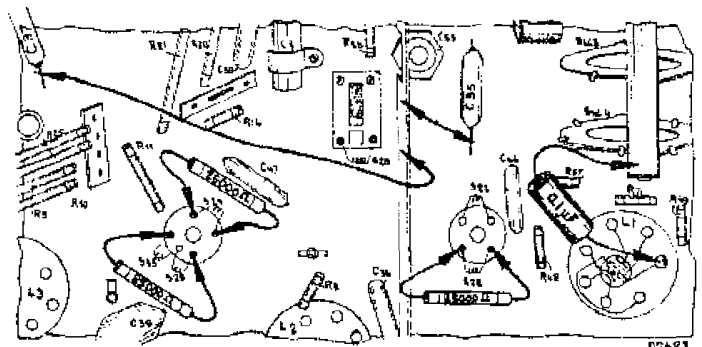

Fig. 3.
6. Render A.V.C. inoperative by short-circuiting C35 and C37 (see Fig. 3).
9. Shunt S24 with 25,000 ohms resistance (see Fig. 3).
13. Shunt S25-S35 with 25,000 ohms resistance (see Fig. 3).
16. Shunt S24 with 25,000 ohms resistance (see Fig. 3).
19. Shunt S22 with 25,000 ohms resistance (see Fig. 3).
25. Shunt S22 with 25,000 ohms resistance (see Fig. 3).
7. Earth grid of the triode part of L1 through an $0.1 \mu\text{F}$ condenser (Fig. 3), and tune on service oscillator to 550 K.C. (545 m.).
4. Earth the grid of the triode section of L1 through $0.1 \mu\text{F}$ condenser (see Fig. 3).